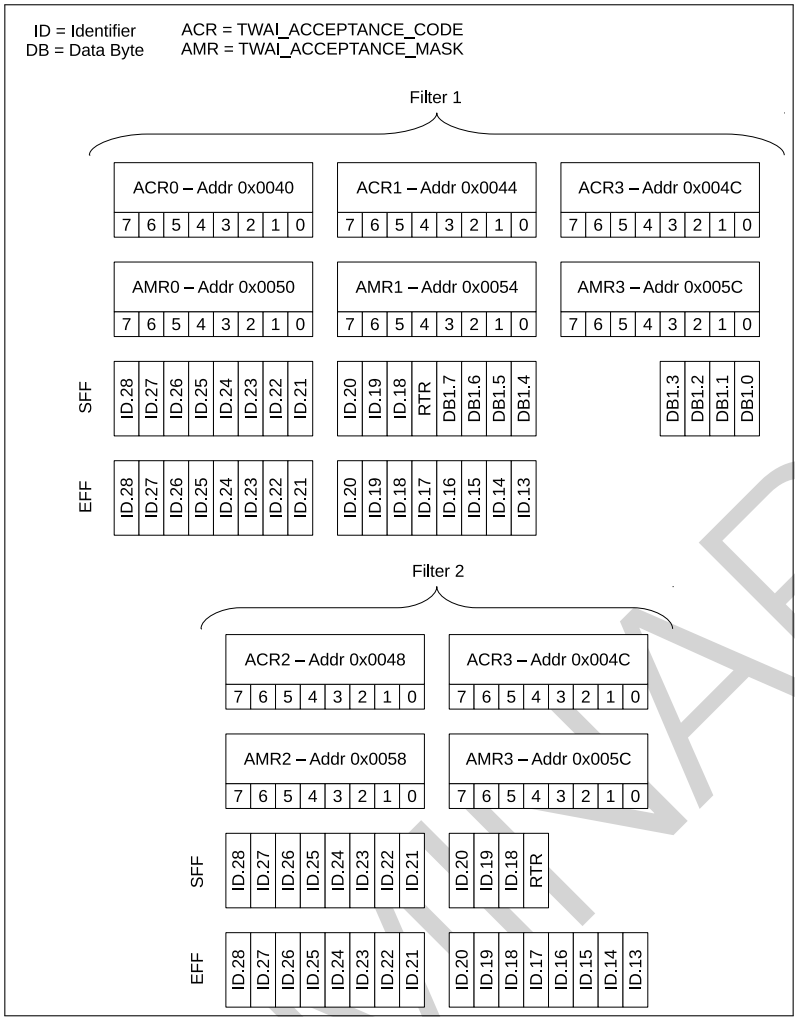

Figure 19-9. Dual Filter Mode
- The following Figure 19-9 illustrates how the 32-bit code and mask values will be interpreted in Dual Filter Mode.